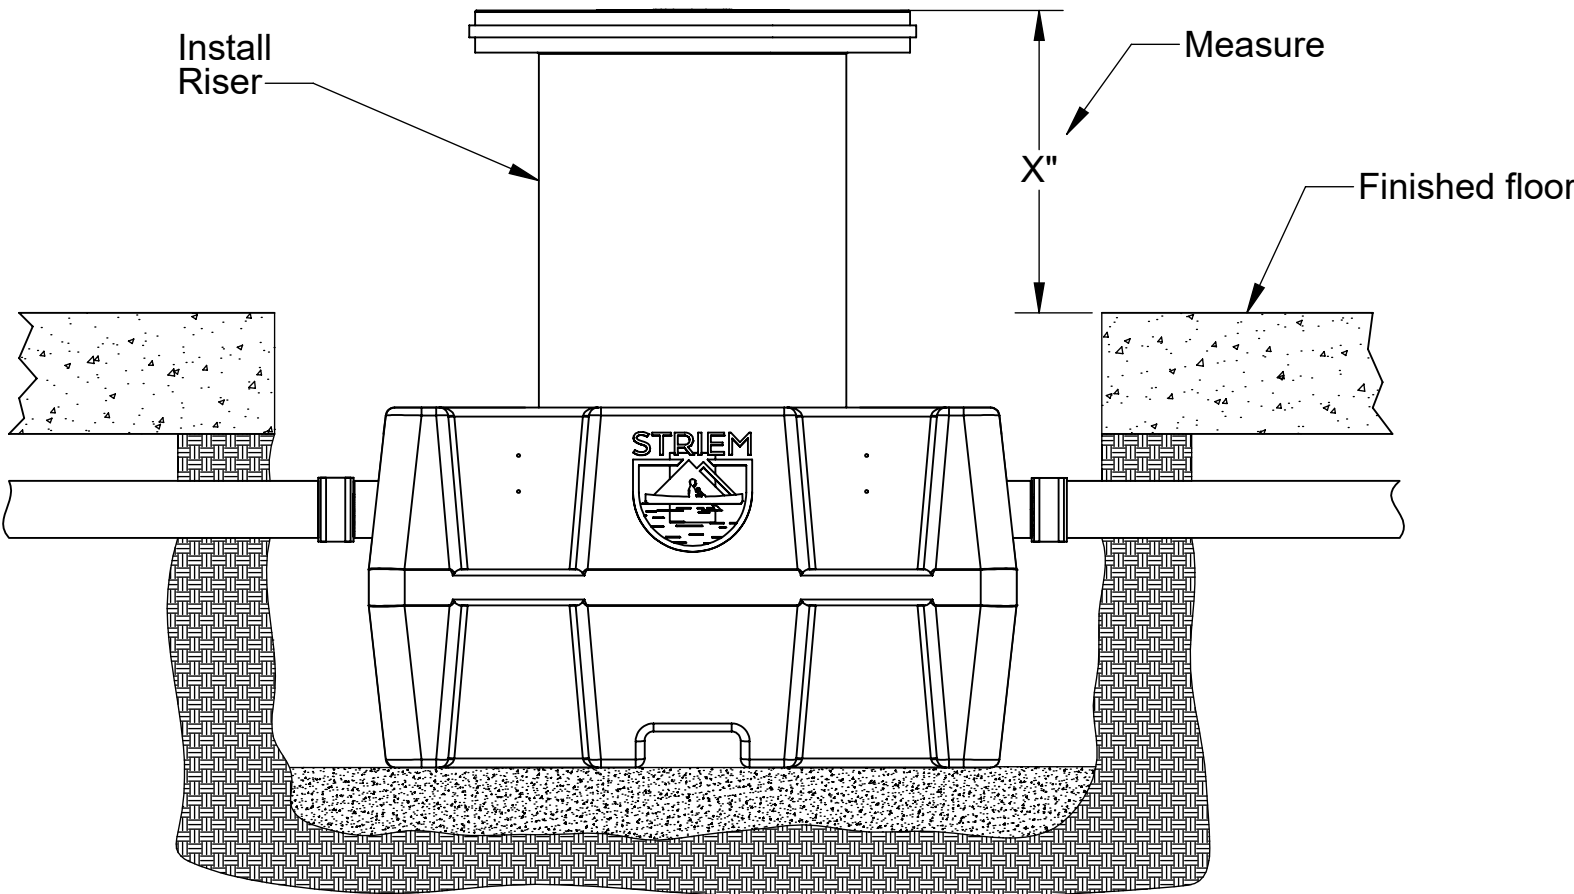

Figure 2
4. Push riser into ring until it stops (about 1 inch). See Figure 2.
5. Measure the distance from the top edge of the riser down to the finished floor. Make sure to account for any future tile work in your measurment. See Figure 2.